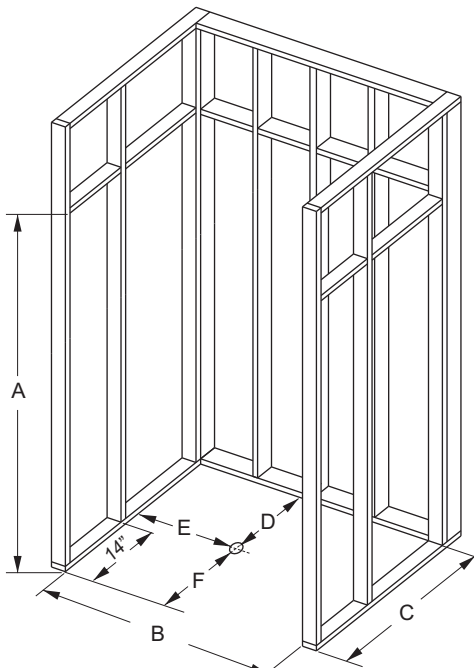
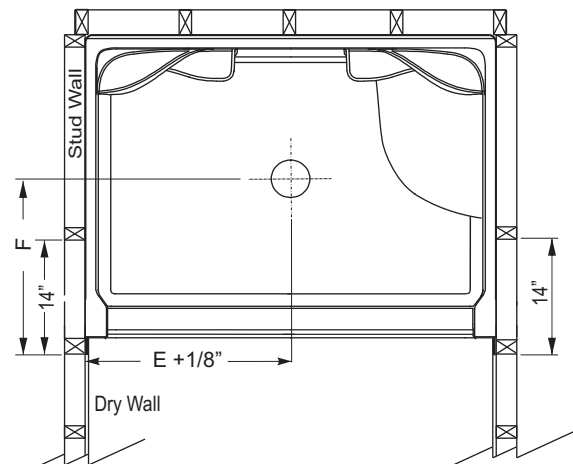

FIGURE 1 - LAYOUT DIMENSIONS
FIGURE 2 - TOP VIEW OF THE SHOWER STALL IN THE ALCOVE
- The Shower Stall is to fit into framed alcove as shown in Figure 1 and Figure 2.
- Framing: Inside dimension of the studded alcove are to be as specified in Figure 1.
Build solid framing to the dimensions in Figure 1.
The drain location on the shower is shown in figure 1.